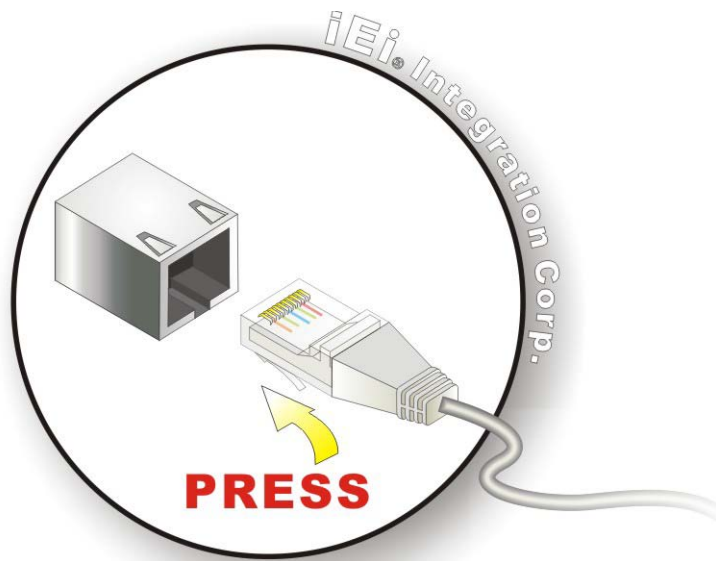

Figure 3-19: LAN Connection
- Step 2:** **Align the connectors.** Align the RJ-45 connector on the LAN cable with one of the RJ-45 connectors on the UPC-V315-QM77. See **Figure 3-19**.